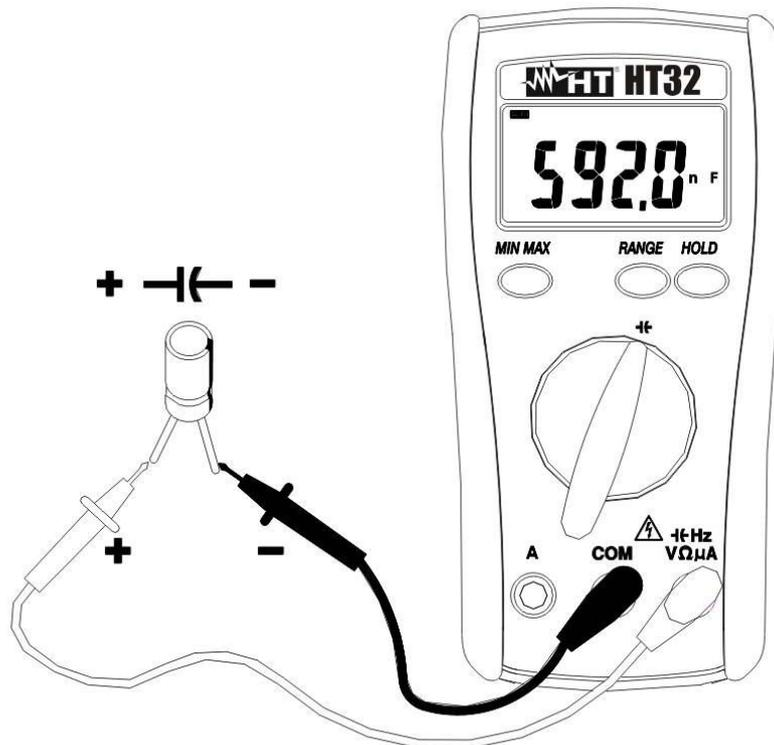

Fig. 9: Capacitance measurement
2. Insert the test leads into the jacks, the red plug into \rightarrow $\text{HzV}\Omega\mu\text{A}$ jack and the black plug into **COM** jack (Fig. 9).